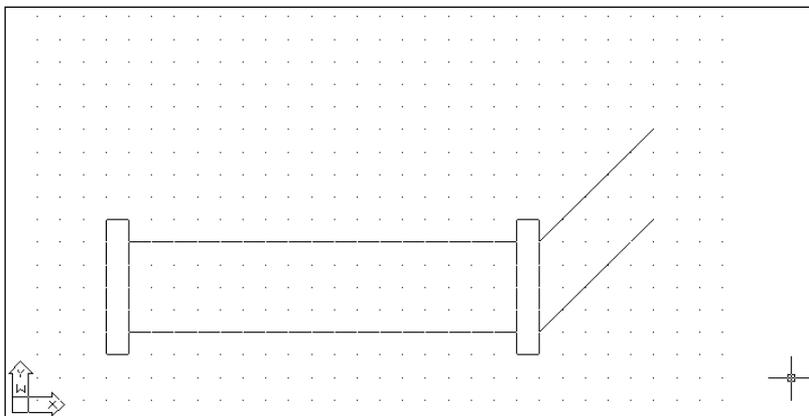

Figure 4-17: The completed pipe section.
22. Save your drawing. Your drawing should look like Figure 4-17.